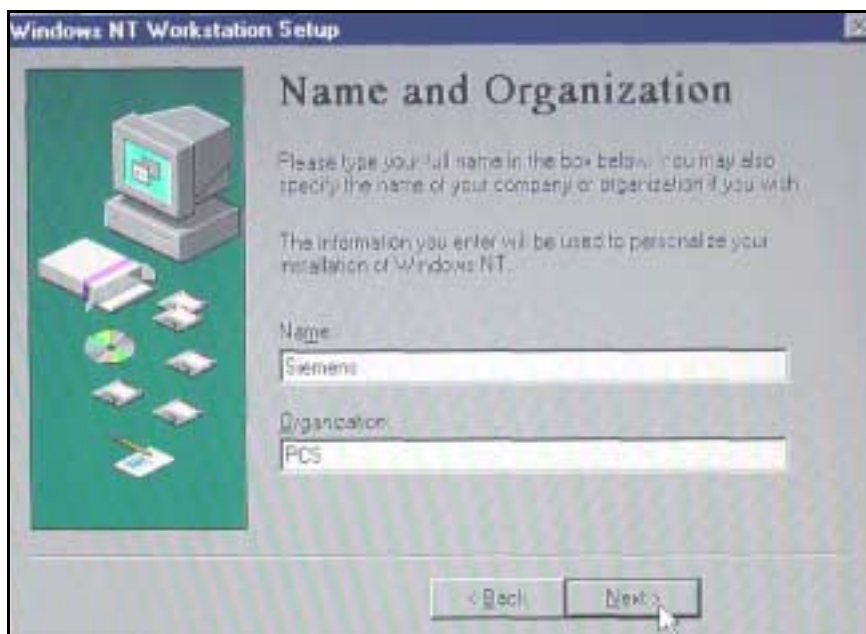

Figure 4-12 Name and Organization screen
20. At “Name and Organization” screen (see Figure 4-12), type in Company or Hospital name in “Name” box, and Company or Hospital Organization in “Organization” box, and then click *Next*.